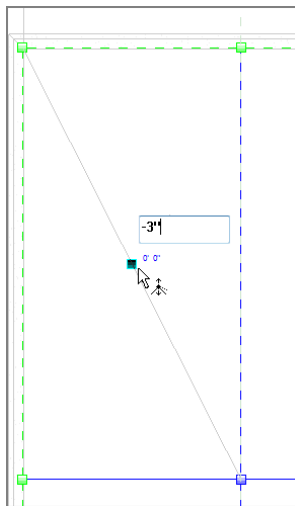

FIGURE 7.14: Click here to taper the roof to this point.
27. Pick the point you just added. A blue elevation appears, as shown in Figure 7.14. Click the elevation, and type -3" (-75mm).